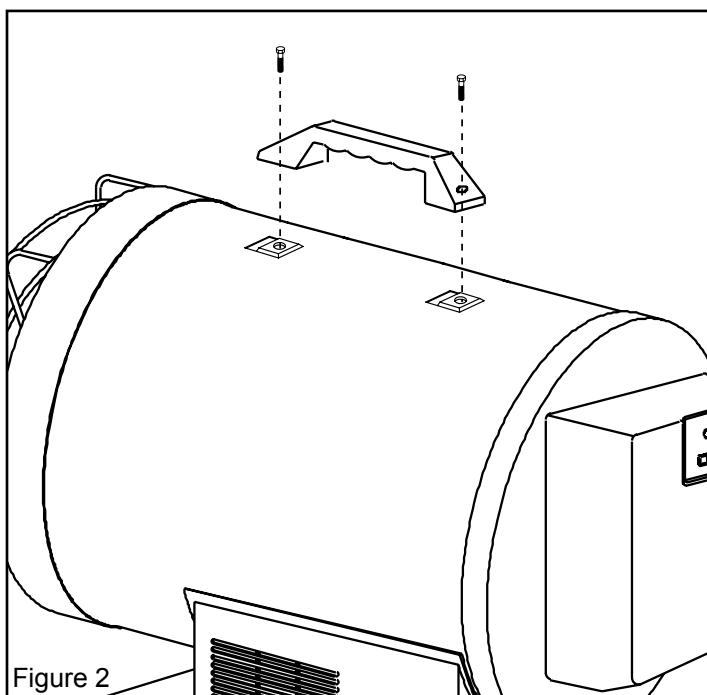

Figure 2
1. Align holes in the upper housing with the 2 holes in the handle as shown in Figure 2.